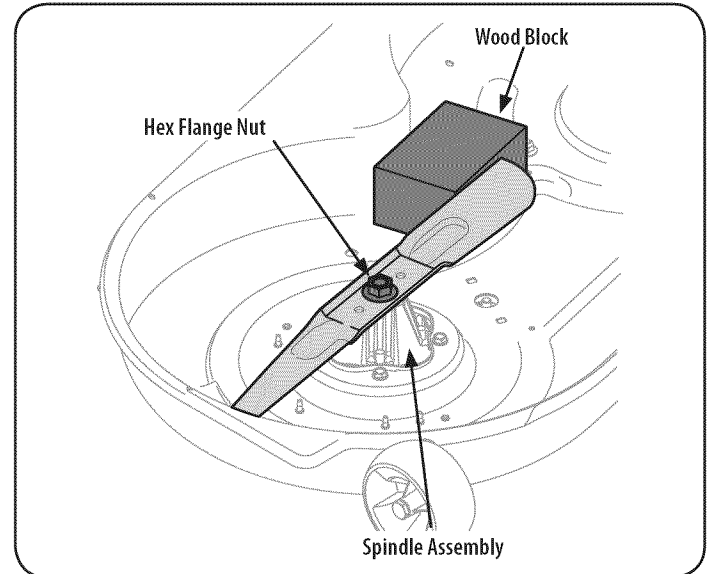

Figure 35
2. Use a $1\frac{5}{16}$ " wrench to hold the hex nut on top of the spindle assembly when loosening the hex nut securing the blade. A block of wood may be placed between the deck housing and the cutting edge of the blade to help in breaking loose the hex nut securing the blade. See Figure 35.